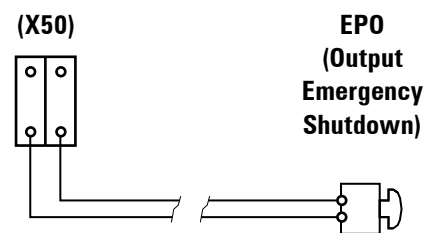

Fig. 38. Connection terminals for emergency shutdown switch or button (EPO), belonging to the end/user.
5.2.10.1. Connection of the communication or BUS bundle (BC).
- As an example, Fig. 38 shows, how the communication BUS connections have to be done.